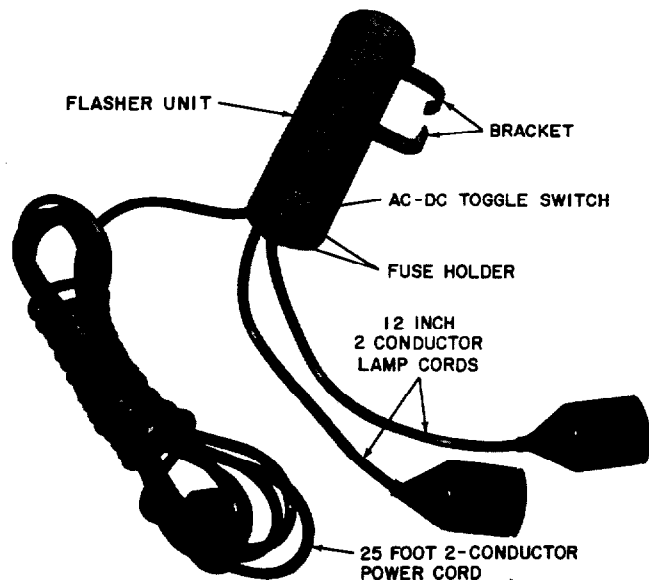

Fig. 2 — C Warning Flasher Without Lamp Head
2.02 The C Warning Flasher (Fig. 2), which operates on 120-volts ac or dc, consists of a weatherproof lamp head and a steel case to house the electrical components. There are two fuses mounted in the base, one in each side of the incoming power cord. A switch located in the base provides for switching to ac or dc to match the power supply. The design of the electrical components of the flasher incorporates a safety feature which permits the flasher to be operated by ac when the power switch is in the dc position or by dc when the power switch is in the ac position for a period of about 10 minutes without permanently damaging the flasher.